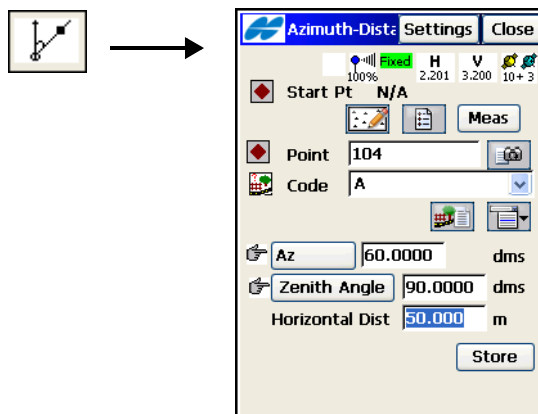

Figure 9-11. Azimuth-Distance-Height
- **Az Dis Ht** – opens the *Azimuth-Distance-Height* screen to define a point specified by the offset from a point. See Figure 9-11 on page 9-12.
The *Azimuth-Distance-Height* screen (Figure 9-11) defines an offset point using the current point as a reference.